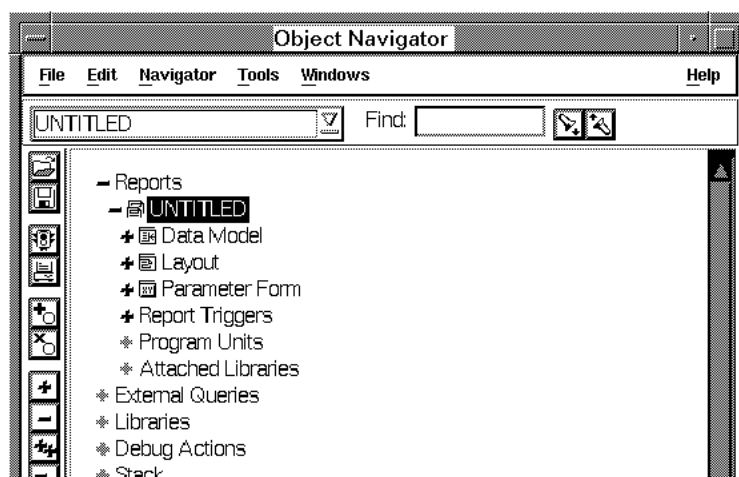

Figure 3-2. Build Template Window Shown w/Query Entered
1. Open the Object Navigator, Figure 3-2, by choosing **Build Templates** from the **Window** menu in the Report Configuration window.